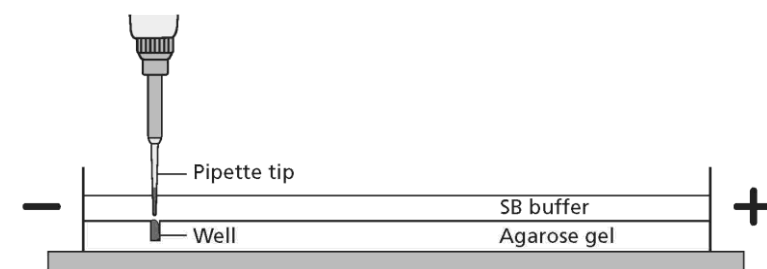

Figure 1.5 The gel electrophoresis unit
2. Check to make sure that the wells in your gel are located near the negative (black) electrode (figure 1.5).